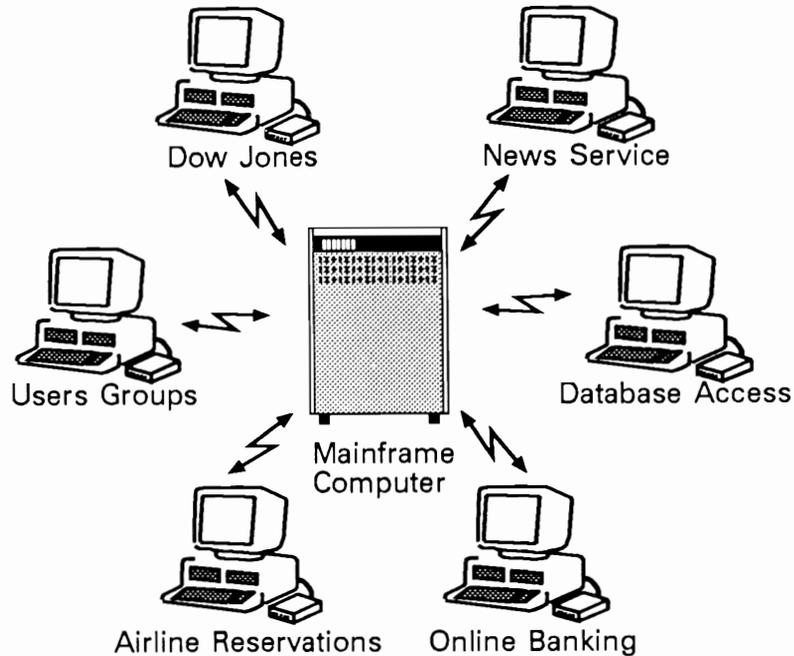

Fig. 7-2. Online services.
*Online services* such as CompuServe, DELPHI, Dow Jones News, The Source, and CompuText make it easy for people with computers and modems to *link up* to the networks' centers of information. By coupling the modem to a telephone, then dialing a specific telephone number (which is often a local or toll-free number), the Commodore can be linked into a network's mainframe computer. You can then use the network service to research a wide range of information, as well as to communicate with other users. Online services can also provide banking, shopping, and airline reservation services through the use of the Commodore's serial communication interface and the modem (Fig. 7-2).